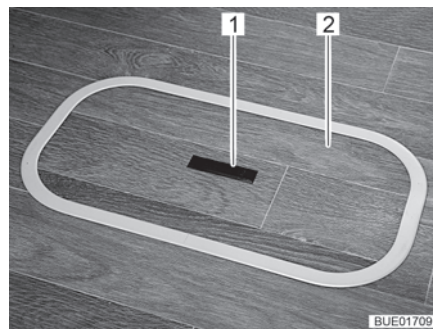
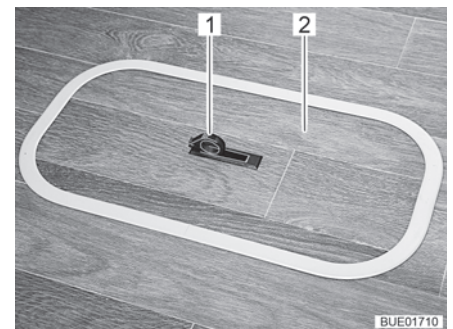

Fig. 49 Floor compartment cover (handle recessed)
Fig. 50 Floor compartment cover (handle swung out)
- Push one side of the grip plate (Fig. 49,1) downwards. The handle (Fig. 50,1) swivels upwards.
- Remove the cover (Fig. 49,2 or Fig. 50,2) upwards.